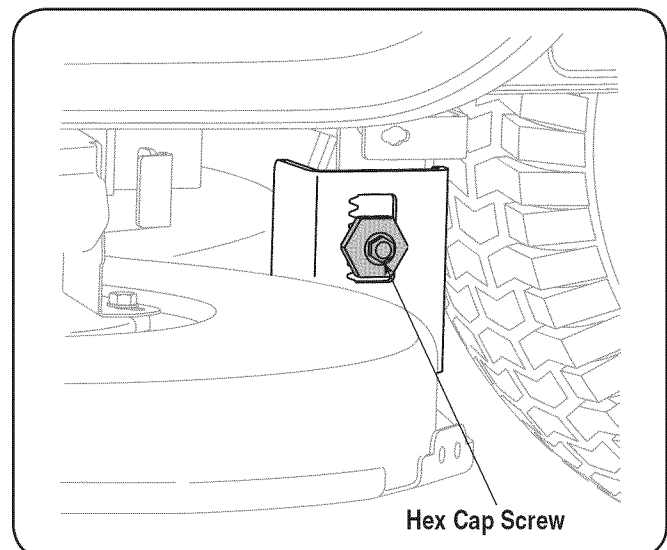

Figure 6-3
3. Loosen, but do NOT remove, the hex cap screw on the left deck hanger bracket. See Fig. 6-3.